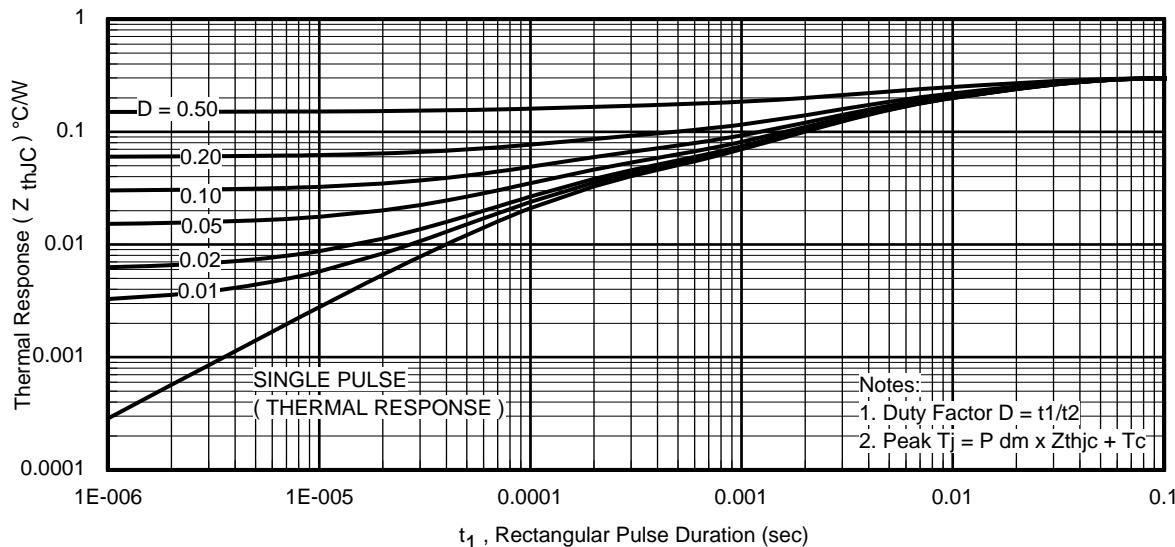

Fig 14. Maximum Effective Transient Thermal Impedance, Junction-to-Case
7. ΔT = Allowable rise in junction temperature, not to exceed T_{jmax} (assumed as 25°C in Figure 14, 15).
- $Z_{thJC}(D, t_{av})$ = Transient thermal resistance, see Figures 14)